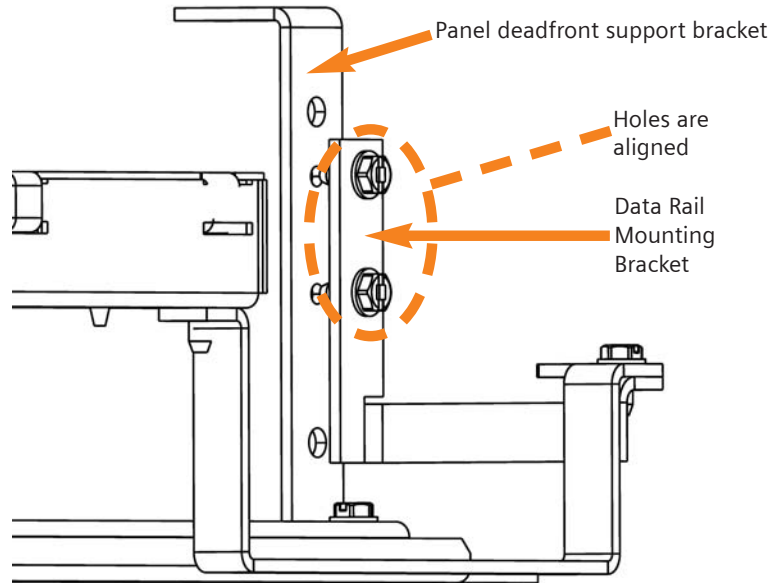

Figure 6.13
4. Align the mounting holes of the data rail brackets to the holes of the panel deadfront support bracket as shown in figure 6.13.